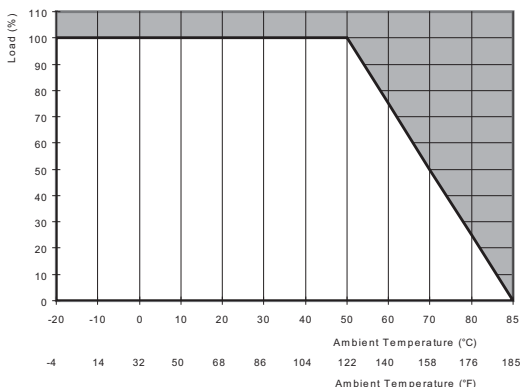

Figure 6
5.4. Thermal behavior (Fig. 6)
In the case of ambient temperatures above +50°C [122°F], the output capacity has to be reduced as shown in Figure 6. If the output capacity is not reduced when T_{AMB} > 50°C [122°F] device will switch into thermal protection mode. The device will cycle output on and off to maintain internal power dissipation and will recover when ambient temperature is lowered or load is reduced as far as necessary to keep device in a normal operating mode.